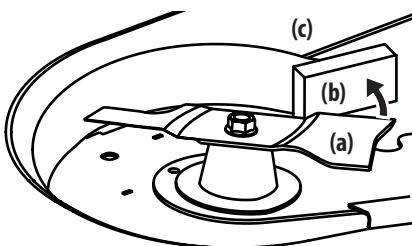

Figure 43
- Wrap a rag around one end of the blade (a) and grasp it to prevent it from turning, or secure the blade (a) by placing a block of wood (b) between the blade (a) and the deck housing (c) (Figure 43).